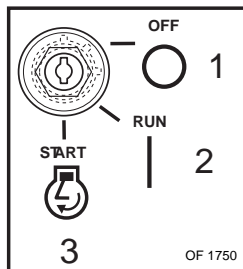

Figure 6
- Insert ignition key (Figure 6).